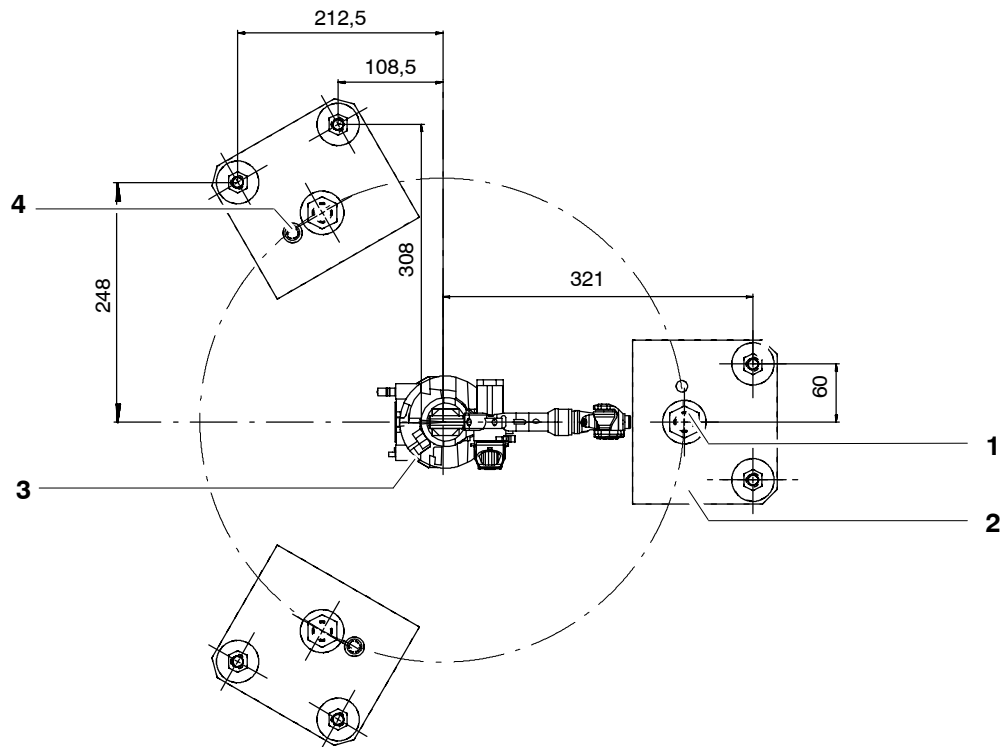

Fig. 57 Bedplates
- (1) Lift the manipulator with fork lift truck or lifting tackle.
- (2) Fasten each of the three bedplates (Fig. 57/2) to the manipulator (3) by means of one M20x55-8.8-A2K ISO 4017 hexagon bolt (1) and conical spring washer. Insert the hexagon bolt (1) and conical spring washer and tighten it with a torque wrench in diagonally opposite sequence, increasing the tightening torque M_A to the specified value in several stages ($M_A = 370 \text{ Nm}$).